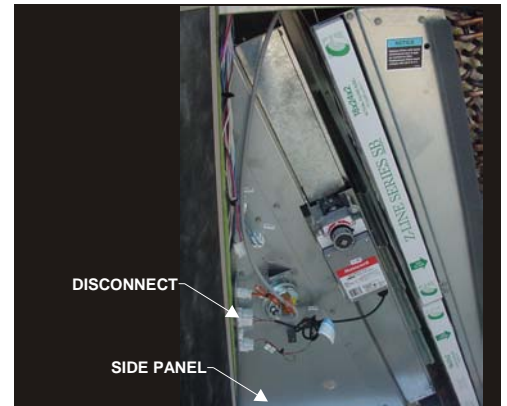

Figure 3
5. Disconnect plug P3 from connector J3. **See Figure 3 and 4.**
9. Open filter access door and slide in balancing damper on economizer rails. Put balancing damper in place with the damper blade at the bottom. Balancing damper mounts in place of the economizer shown in **Figure 3.** After assembly is in place attach the LD shield to the side panel, thus securing the balancing damper from sliding out of position. Loosen wing nut on adjustable quadrant, rotate arm to set blades to 50% open and retighten wing nut. **See Figure 6.**